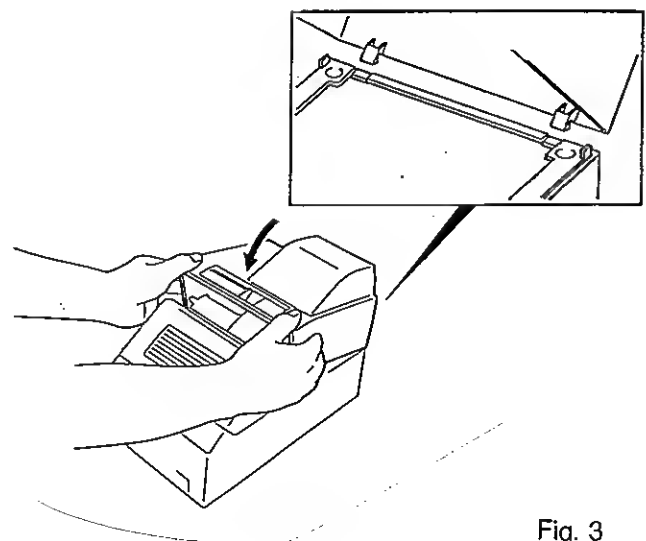

Fig. 3
2. Attaching the paper cover (Fig. 3)